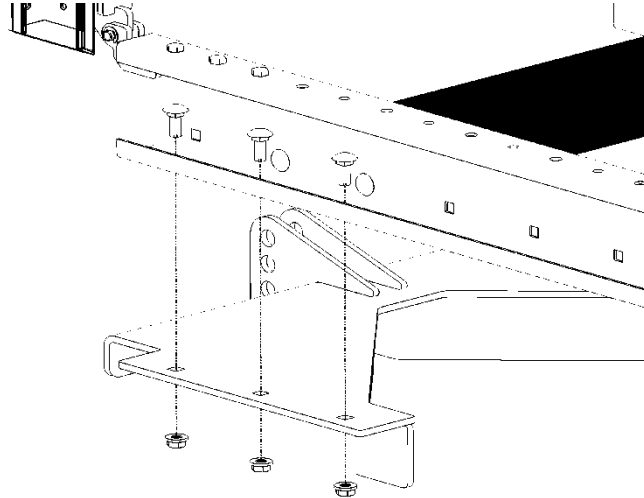

Figure 7: RLVD CG Installation-3
| Figure 7: RLVD CG Installation-3 | 11 |
5. This step will require two people. While the gate is still being held vertically, fasten the bottom plate using the 3/8"-16 hardware that came with the ship loose kit to the bottom of the conveyor. (See Figure 7)